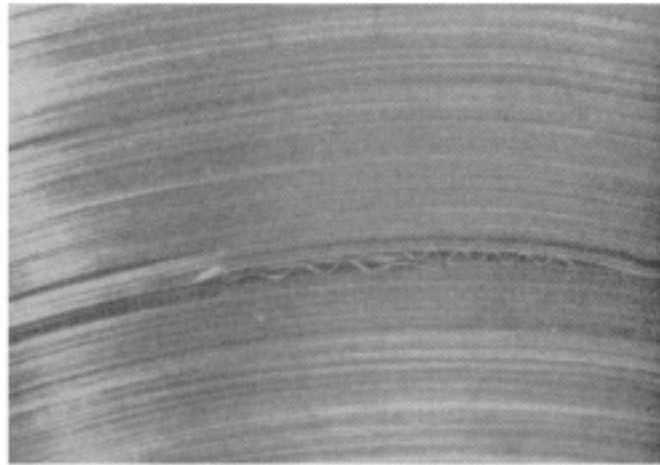

Figure 2-2.—Example of cinched tape pack.
Cinching happens when a tape reel is stopped too quickly. The sudden stop causes the outer layers of magnetic tape to continue to spin after the inner layers have stopped. This causes any loosely wound tape within the pack to unwind and pile up. Figure 2-2 shows an example of a cinched tape pack (note the complete foldover of one tape strand).
- Q-23. *After rewinding a tape onto its supply reel, you examine the tape pack and notice pile-ups of tape resembling the example in figure 2-2. What causes this condition?*